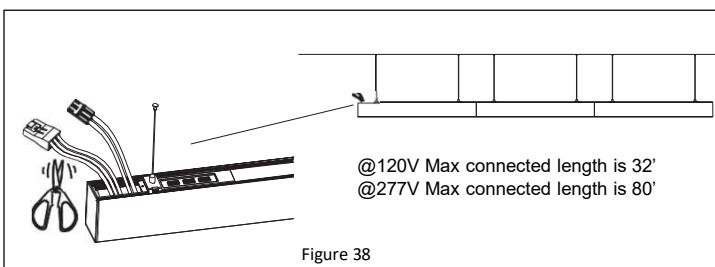

Figure 38
10. Cut off the connectors in one end for wiring to line voltage. **See Figure 38.**